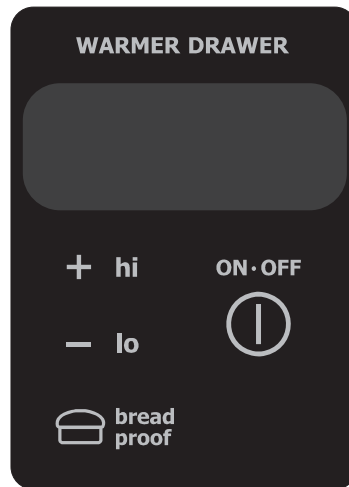

Figure 2
For moist heat: Slide the humidity control knob in the direction of more moist (Figure 2). This will help keep the food in the Warmer Drawer from drying out. Both heat and moisture will be applied to the Warmer Drawer cavity.
1. Pull the plastic slider to the front of the glide slots on each side of the drawer cavity (See Figure 2).